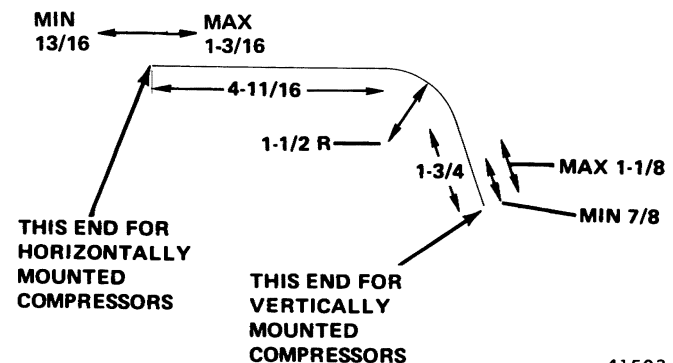

Fig. 18 Oil Dipstick Dimensions (In Inches)
(1) If compressor is equipped with service valves, isolate compressor. If compressor is equipped with Schrader valves, discharge system.
(2) Loosen crankcase oil check plug slowly to release any internal pressure in compressor. Remove check plug only after all pressure is relieved.
(3) Fabricate oil dipstick rod as shown in Figure 18.
(4) Hold dipstick as vertical as possible and insert dipstick in check plug opening. Oil level should be within specifications indicated in Figure 18.
(5) Add clean refrigerant oil if necessary.